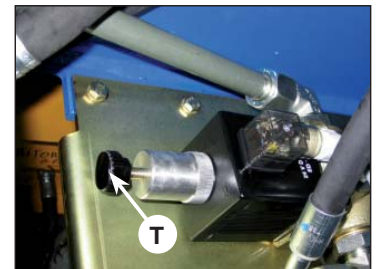

fig. 5a
T Electric deviator of the crane-outriggers (fig. 5a)
- tighten the **T** screw (fig. 5a)
- to reactivate the crane functions loosen the **T** screw, to the previous position (see fig. 5a)